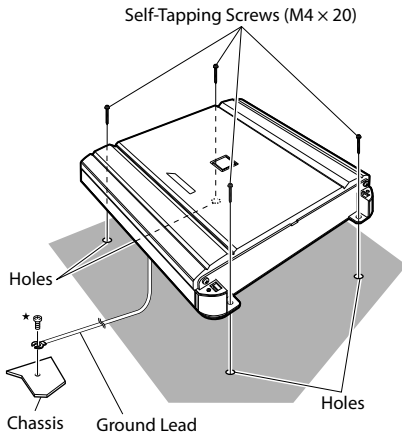

Fig. 1
4. Position the MRV-V500 over the screw holes, and secure with four self-tapping screws. (Fig. 1)